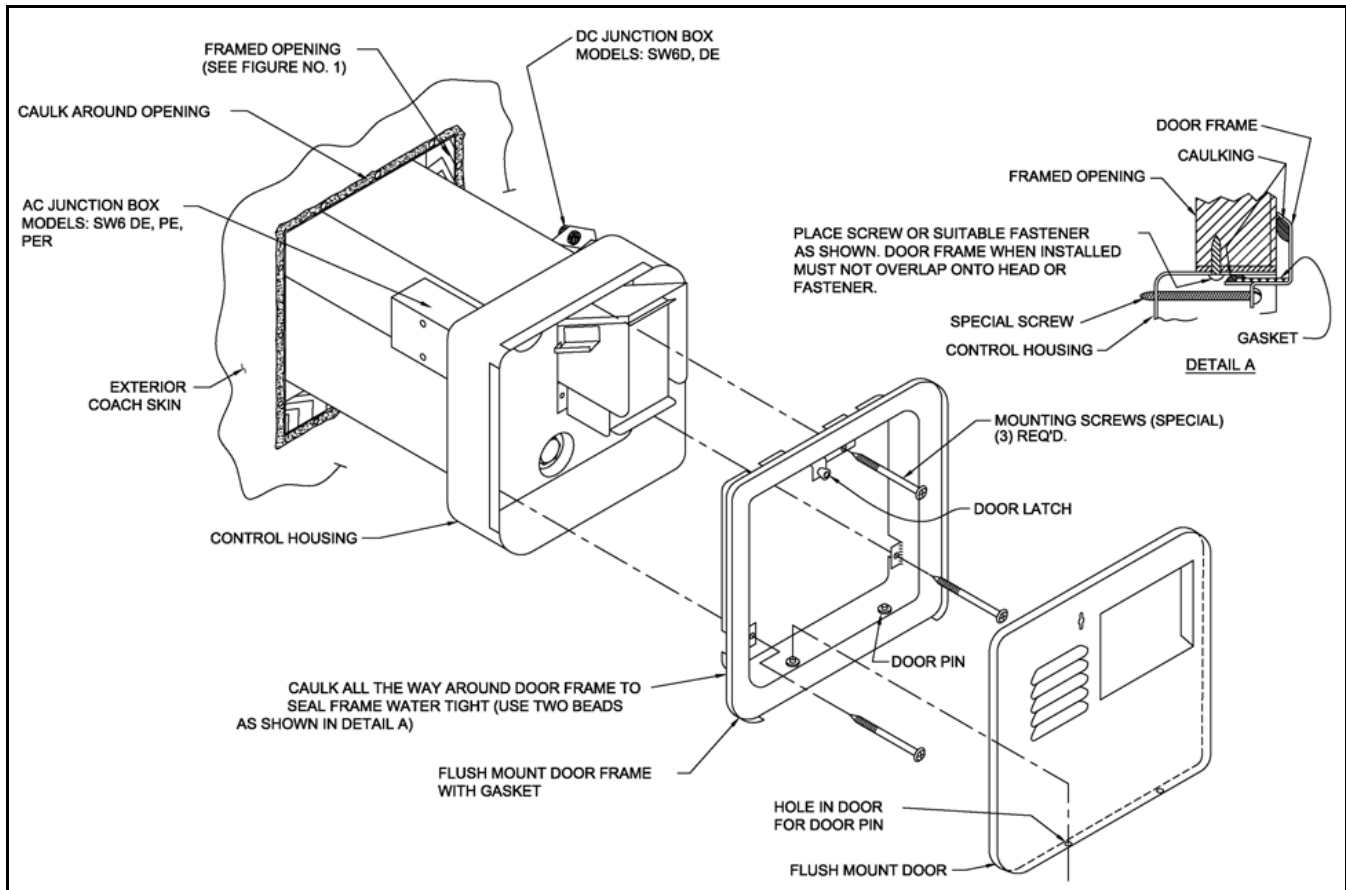

Figure 2
(See Figure 2 for Illustration)
- B. Refer to Figure 2 for location of D.C. junction box on models SW6D and SW6DE. Refer to Figure 5 and 6 for location of D.C. junction box on models SW6DM and SW6DEM.
- B. Refer to Figure 2 for location of A.C. junction box on model SW6DE. Refer to Figure 6 for A.C. junction box on model SW6DEM.